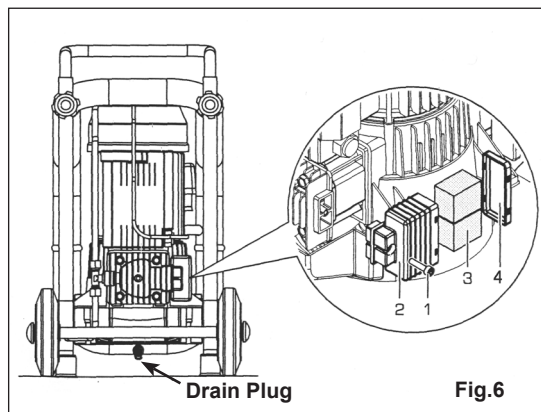

Fig.6
- 5.1.2. To drain the tank simply unscrew the drain valve on the bottom of the receiver tank (fig.6), any water present should then flow out.